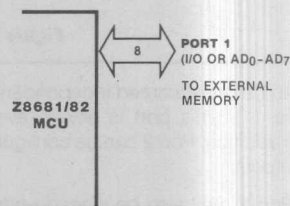

Figure 8. Port 1
Port 1 is a dedicated Z-BUS compatible memory interface. The operations of Port 1 are supported by the Address Strobe (\overline{AS}) and Data Strobe (\overline{DS}) lines, and by the Read/Write (R/W) and Data Memory (DM) control lines. The low-order program and data memory addresses (A_0 - A_7) are output through Port 1 (Figure 8) and are multiplexed with data in/out (D_0 - D_7). Instruction fetch and data memory read/write operations are done through this port.